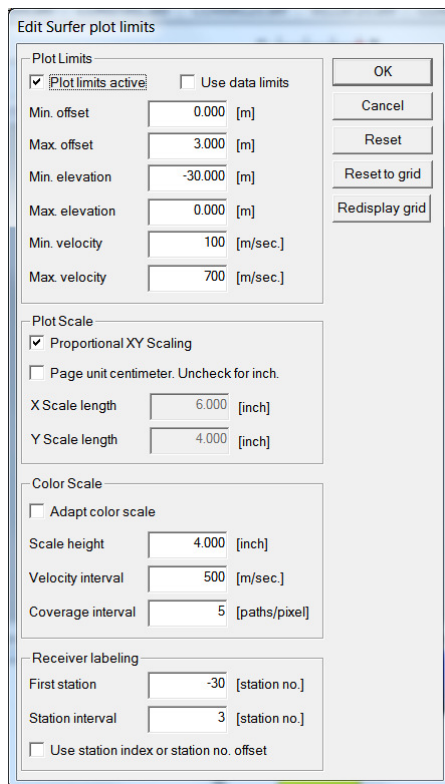

Fig. 14 (left) : select ***Grid\Surfer plot Limits***. Edit as shown. Set ***Max. velocity*** to 700 m/s. Click button OK.
- edit *Grid\Surfer plot Limits* as in Fig. 14. Click button OK.
We use a **Ricker wavelet** for WET update weighting across the wavepath (**Ricker differentiation** 0 in Fig. 16 left) and **manual WET smoothing** (Fig. 16 right) with smoothing filter **half-width** 50 grid columns and **half-height** 0 grid rows. We uncheck option **Adapt shape of filter**. This manual WET smoothing filter results in horizontal layering in the WET tomogram (center). Surfer plot limits as in Fig. 14.